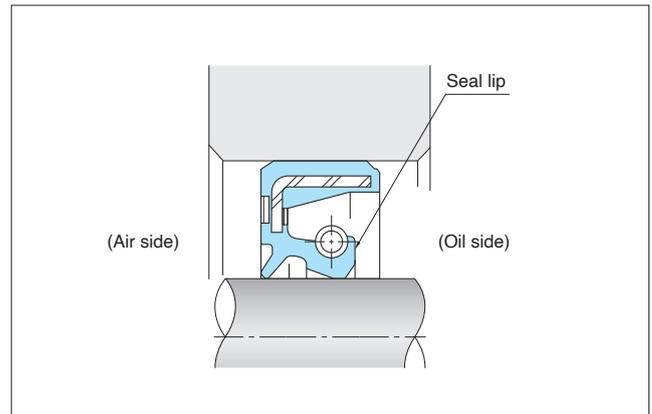

Fig. 7-4 Orientation of the Seal
- ❶ Orient the seal so that the seal lip faces the fluid to be sealed, as shown in Fig. 7-4.